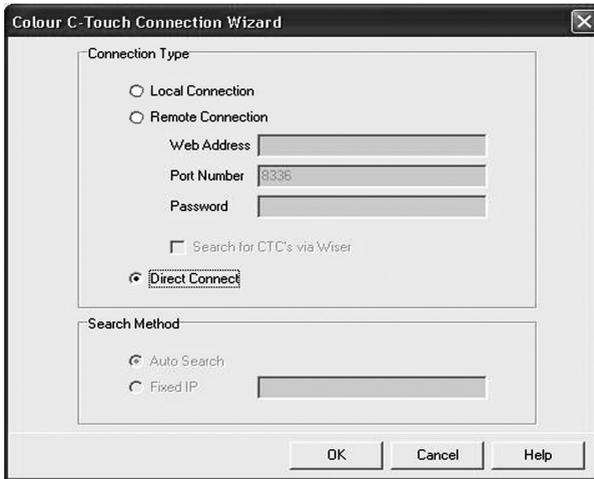

Figure 19. Select the network connection type
- You will be asked to select the type of network. Select Direct Connect and then click OK (see Figure 19).